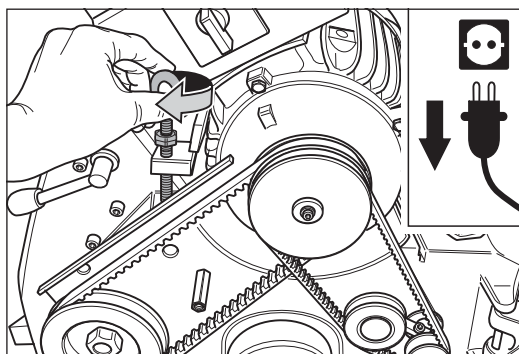

Fig. 55 Mount the V-belts and tension them by turning the eye bolt at the motor clockwise.
- 6 Mount the V-belts and tension them by turning the eye bolt at the motor clockwise (Fig. 55).